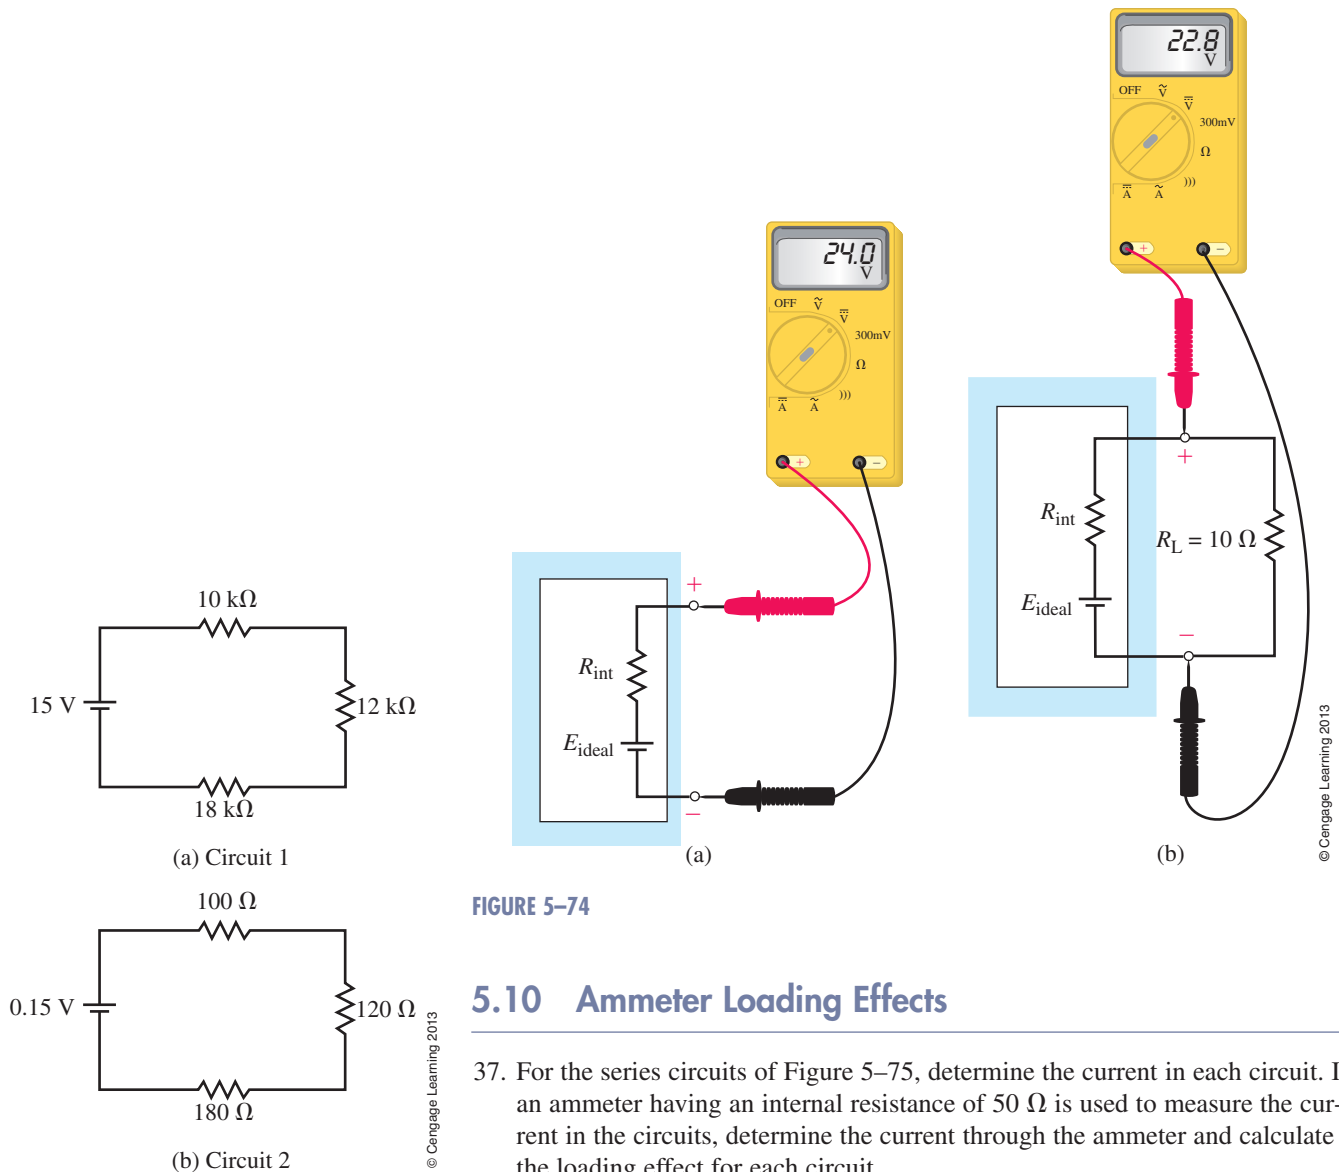

FIGURE 5–74
37. For the series circuits of Figure 5–75, determine the current in each circuit. If an ammeter having an internal resistance of $50\text{ }\Omega$ is used to measure the current in the circuits, determine the current through the ammeter and calculate the loading effect for each circuit.